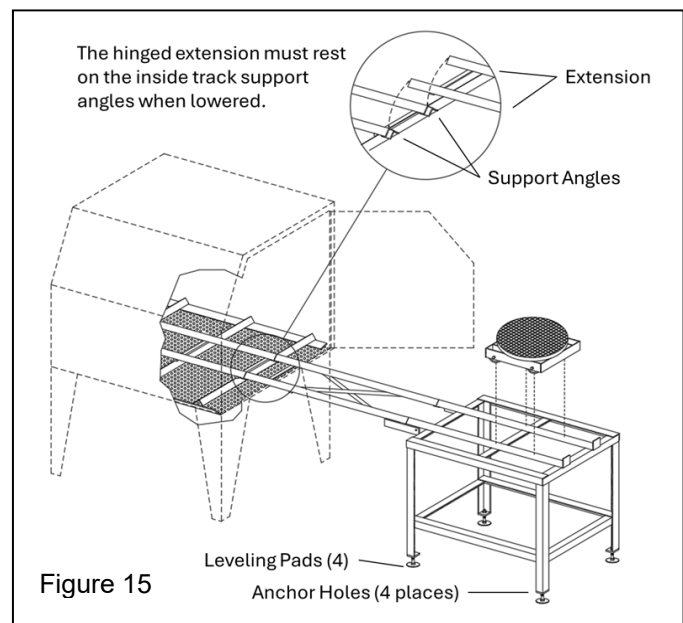

Figure 15
3.5.3 Position the track support table and extension, as shown in Figure 15. When the hinged extension is lowered, the extension tracks must rest on the angled locating supports welded to the bottom of the inside tracks, and butt against the inside tracks.